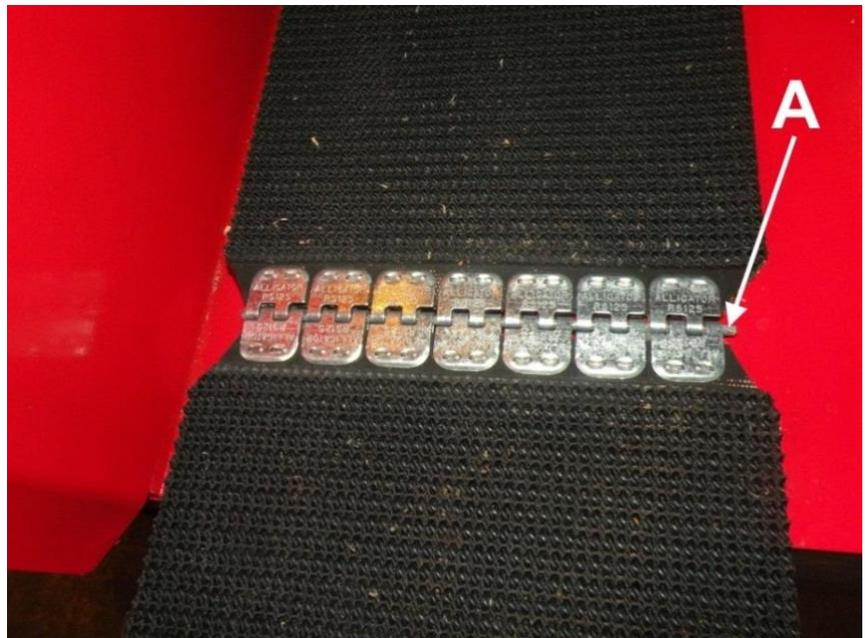

Figure 26
4. Disconnect the joint by using, for example, pliers to pull out pin A (Figure 26) holding the joint together.
8. Connect the joint by inserting pin A (Figure 26) into the joint.